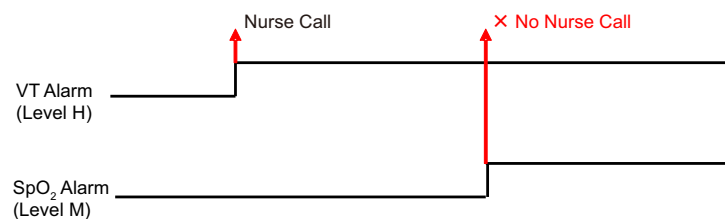

Figure 10: When a new alarm of the lower alarm level generates
- ♦ If the alarm level of new alarm is lower than the previous alarm, the new alarm will not be notified to nurse call (Figure 10).